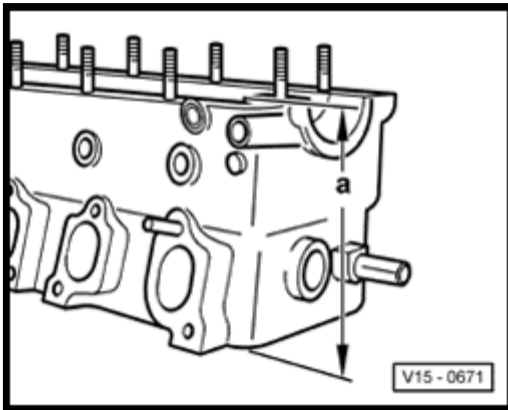

Fig. 125: Reworking cylinder head sealing surface
- Checking axial clearance. See **Fig. 125** .
- Before installing check camshaft axial clearance. See **Fig. 125** .
- Reworking sealing surface. Refer to **Fig. 125** Fig. 1